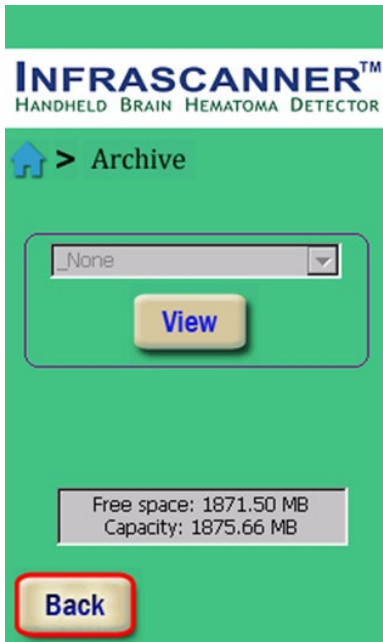

Figure 3-12: Archive Screen
2. To view archived measurements click on “View” button, as shown in Figure 3-12.